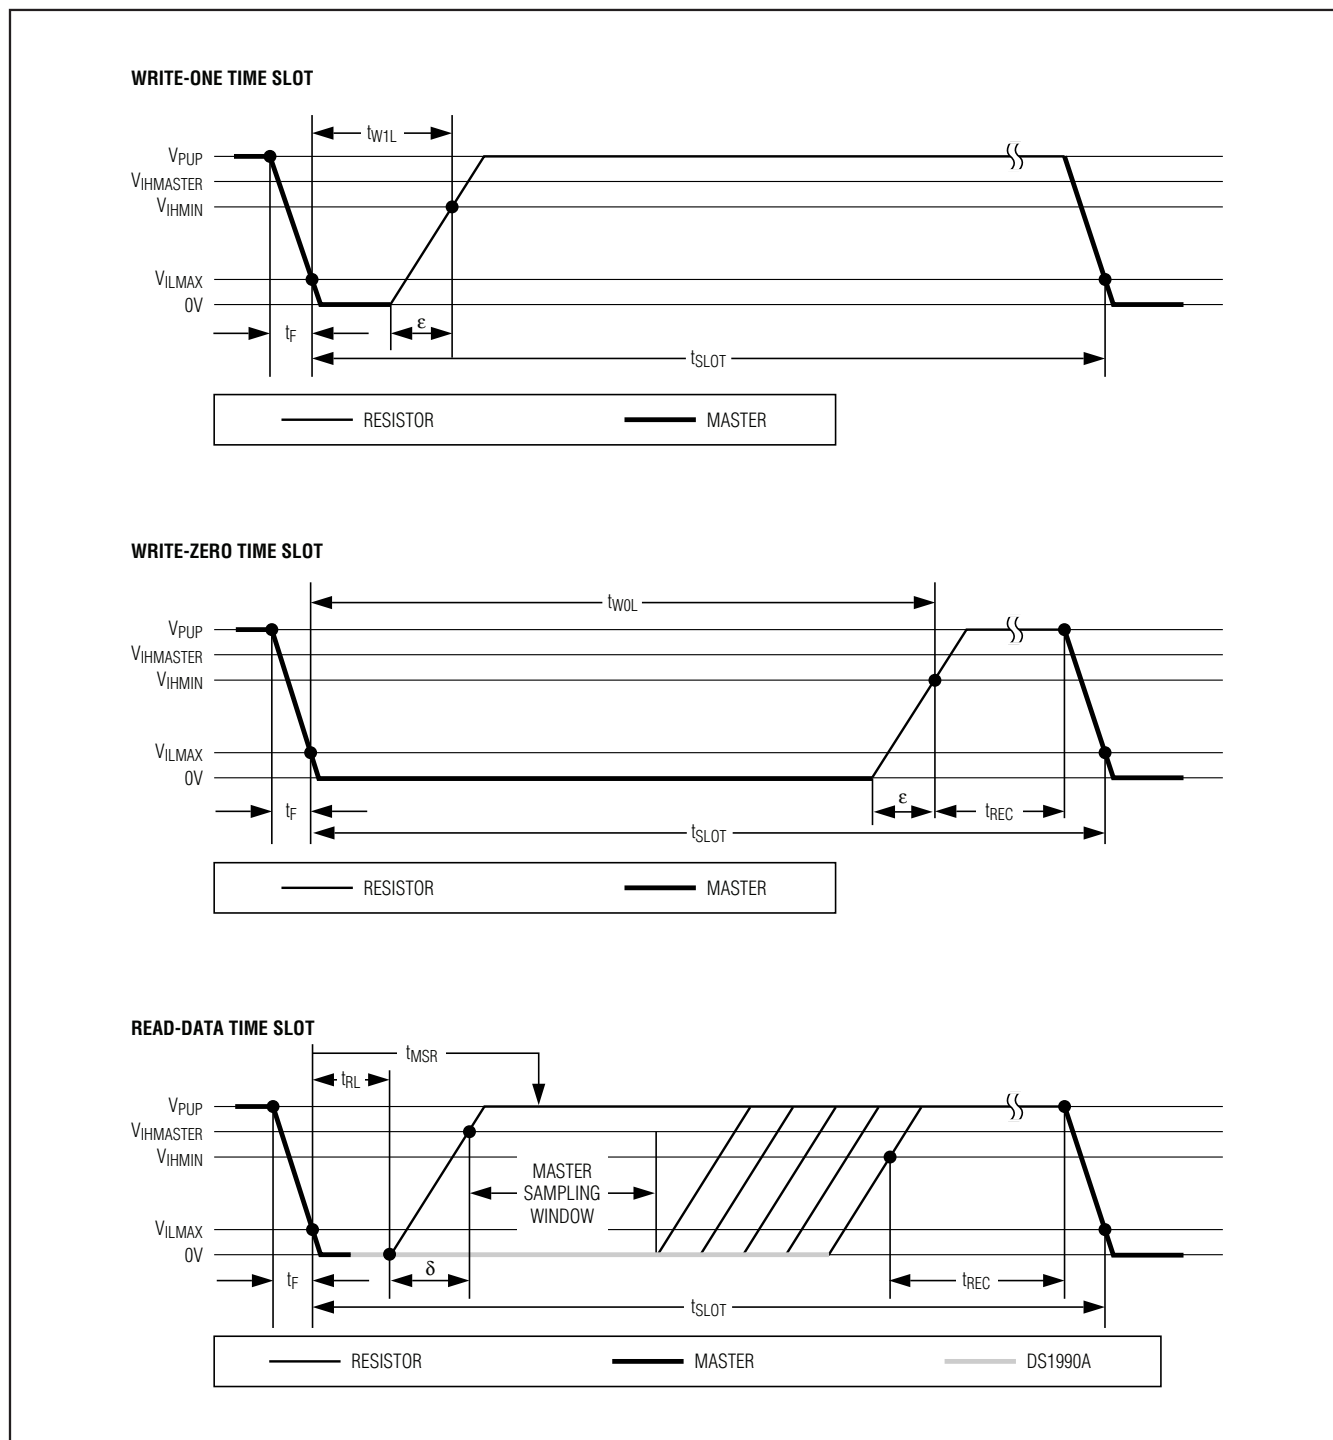

Figure 7. Read/Write Timing Diagram
- Note 14:**  $\epsilon$  in Figure 7 represents the time required for the pullup circuitry to pull the voltage on IO up from  $V_{IL}$  to  $V_{IH}$ . The actual maximum duration for the master to pull the line low is  $t_{W1LMAX} + t_F - \epsilon$  and  $t_{W0LMAX} + t_F - \epsilon$ , respectively.
- Note 15:**  $\delta$  in Figure 7 represents the time required for the pullup circuitry to pull the voltage on IO up from  $V_{IL}$  to the input-high threshold of the bus master. The actual maximum duration for the master to pull the line low is  $t_{RLMAX} + t_F$ .
Data communication with the DS1990A takes place in time slots that carry a single bit each. Write time slots transport data from bus master to slave. Read time slots transfer data from slave to master. The definitions of the write and read time slots are illustrated in Figure 7.